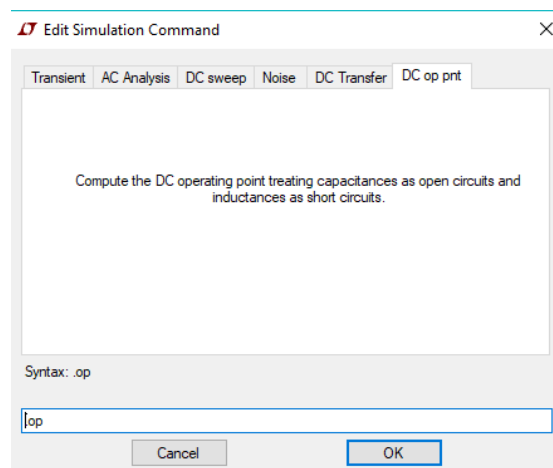

Figure 13 Dc operating point simulation
3. Go to Simulate → Edit Simulation CMD. Choose the type of analysis you want to simulate → DC op pnt as shown in Figure 13 then ok.